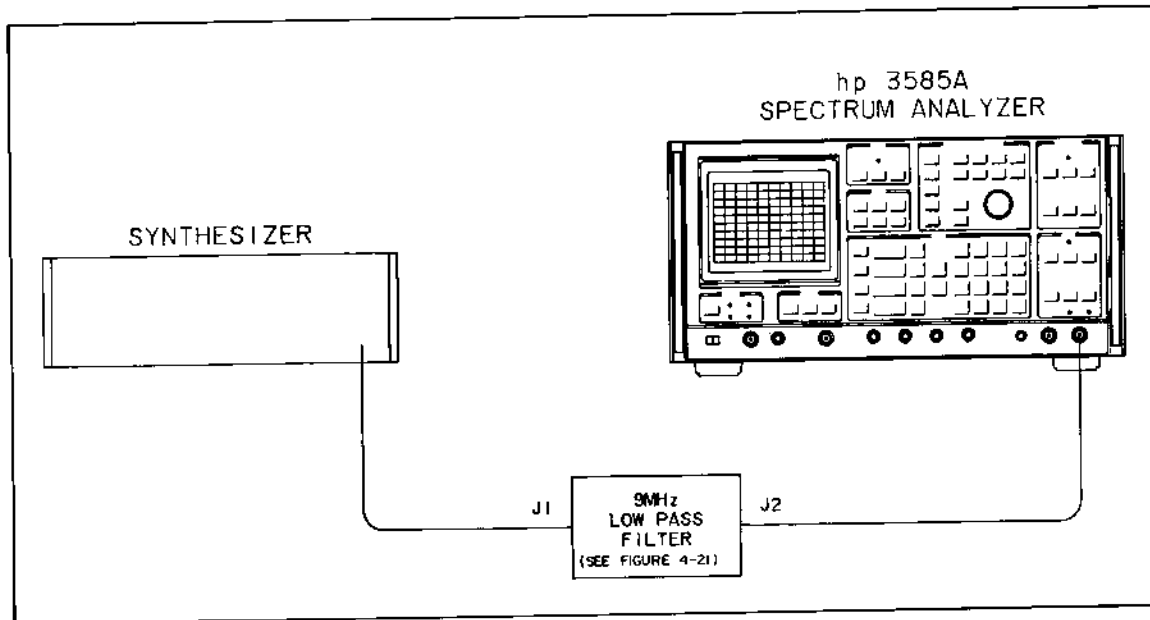

Figure 4-4. Harmonic Distortion Test
f. Connect the 50Ω output of the synthesizer to the input of the filter. connect the output of the filter to the 50Ω input of the 3585A (see Figure 4-4).